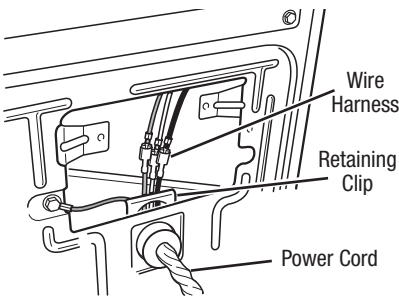

Figure 4. Remove the retaining clip.
5. If it is necessary to replace the power cord, remove the retaining clip that secures the cord to the back panel. See figure 4. Disconnect the cord from the main harness and the ground wire from the rear panel, then pull out the power cord.